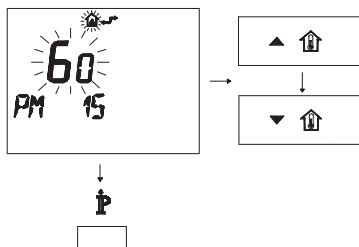

Fig. 8.4
- Modify the programmed SET by pressing buttons \blacktriangle H or \blacktriangledown H until a **setting of 60** is displayed, wait for the number programmed to flash (Fig. 8.4).